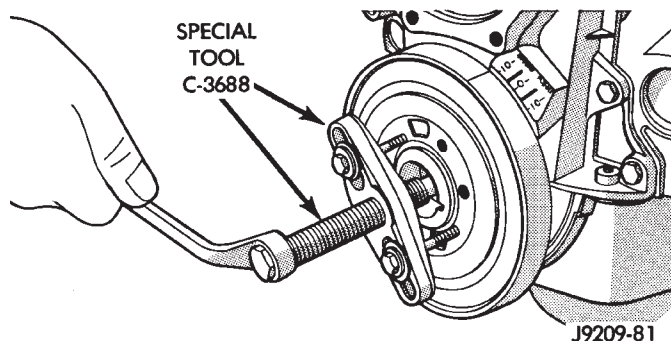

Fig. 25 Vibration Damper Assembly
- (1) Disconnect the negative cable from the battery.
- (2) Remove fan shroud retainer bolts and set shroud back over engine.
- (3) Remove the cooling system fan.
- (4) Remove the serpentine belt. Refer to Group 7, Cooling System.
- (5) Remove the vibration damper pulley.
- (6) Remove vibration damper bolt and washer from end of crankshaft.
- (7) Install bar and screw from Puller Tool Set C-3688. Install two bolts with washers through the puller tool and into the vibration damper (Fig. 25).